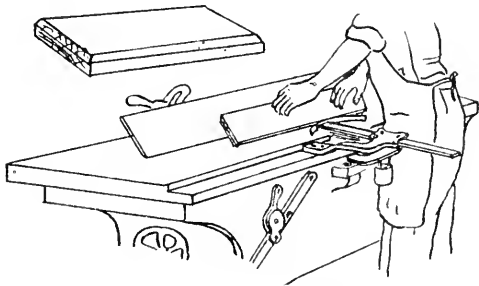

FIG 8—CUTTING A CHAMFER
**12. Chamfering--** The jointer may be used for chamfering as illustrated in Fig. 8, by tilting the fence so as to cut the desired angle. Remember that the rule learned in hand planing, to plane the end grain first still holds good.
3. Use a wooden mitten or specially provided stick (Fig. 8) of some kind in pushing flat and narrow pieces over the revolving cylinder.